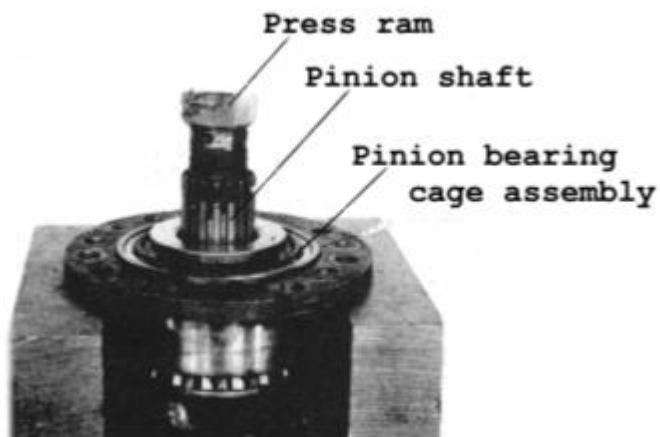

Fig 48
- * Press the pinion shaft from the pinion bearing cage assembly (Fig. 48).